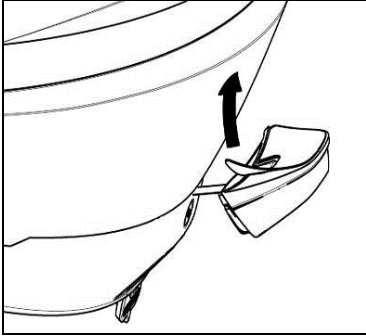
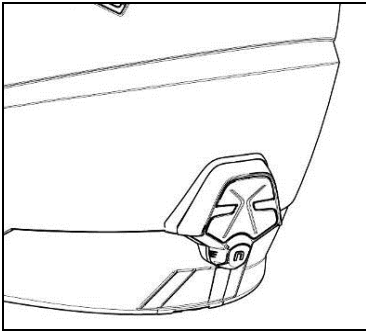

Fig. 16
Fig. 17
- Remove the protective film from the double-sided adhesive tape of the helmet adapter (Fig. 16) and apply the ESS system to the shell (Fig. 17).